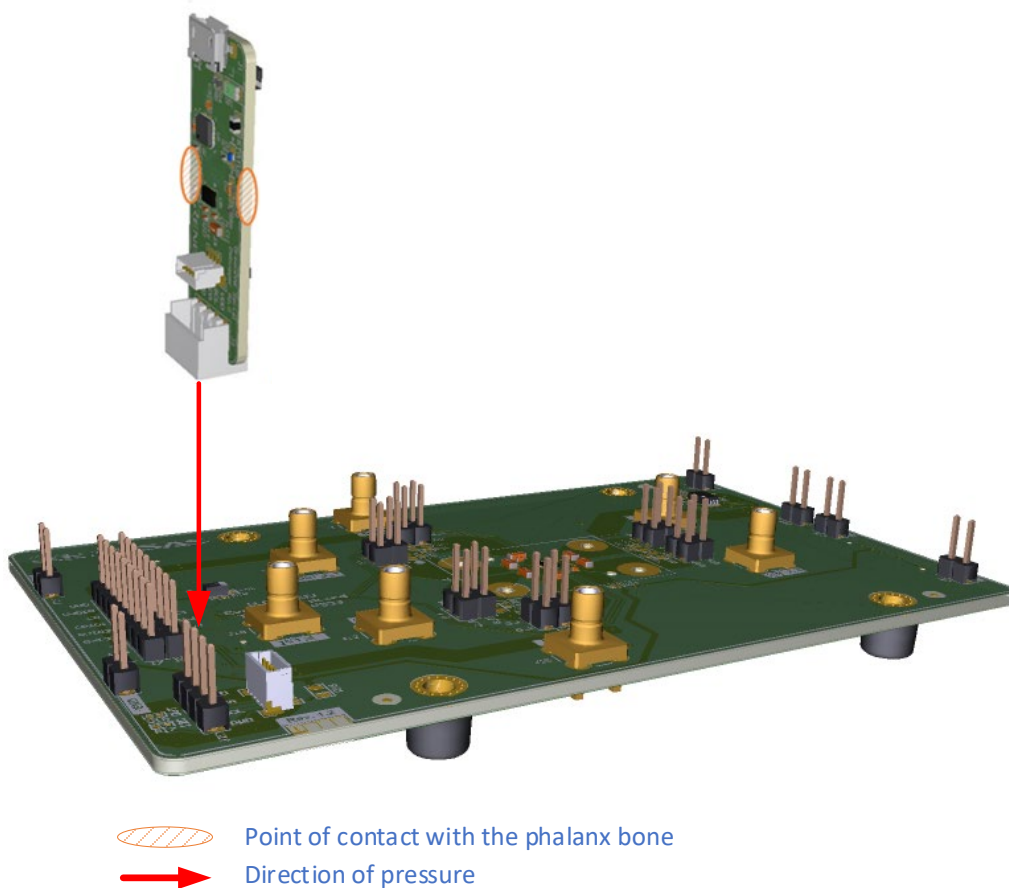
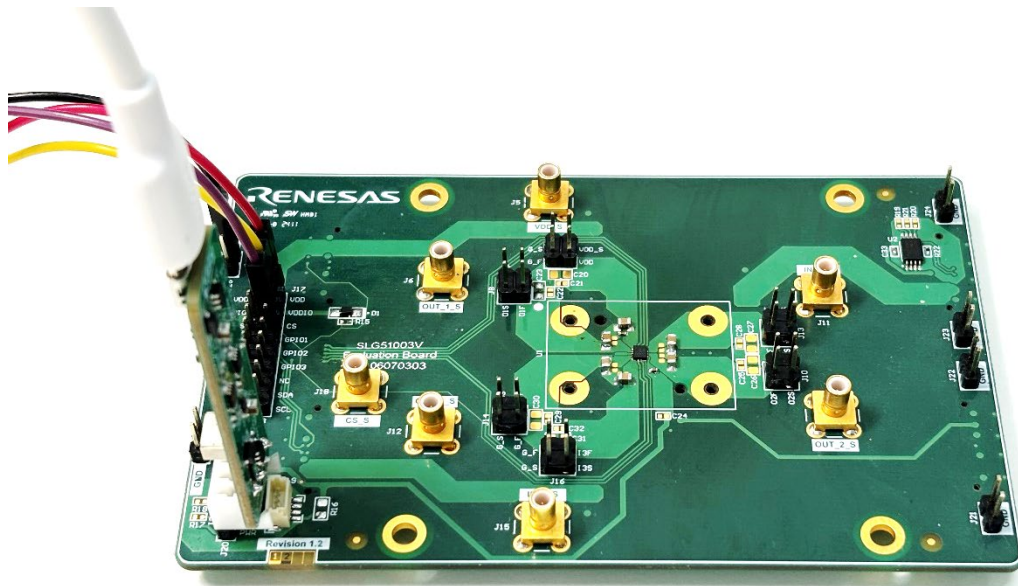

Figure 5. Connecting GSD Board to Evaluation Board
Figure 6. Evaluation Board with GreenPAK Serial Debugger
To start using the Evaluation Board for chip emulation, three separate power supplies are required alongside with the GreenPAK Serial Debugger. For IC emulation, apply  $V_{DD}$  and  $V_{DDIO}$  based on application requirements and 1.8 V to the chip select (CS) pin, then insert the GSD board as shown in Figure 5. A typical connection circuit for chip emulation is shown in Figure 6.